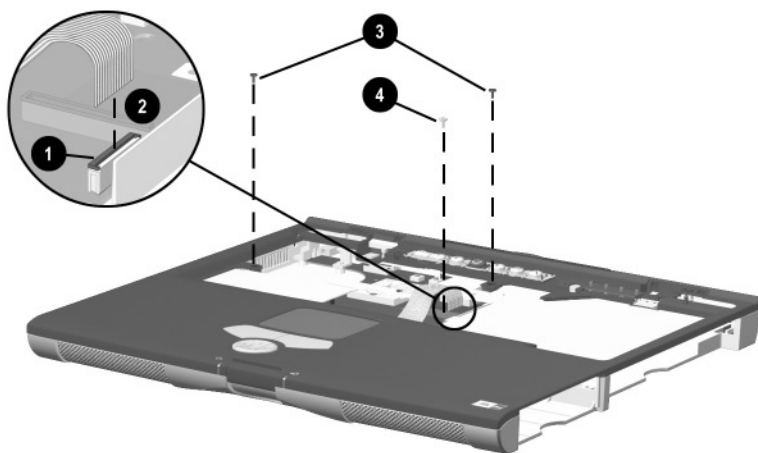

Figure 5-19. Disconnecting the TouchPad Cable and Removing the Top Cover Screws
7. Release the ZIF connector ❶ to which the TouchPad cable is attached and disconnect the TouchPad cable ❷ from the system board (Figure 5-19).
8. Remove the two black M2 × 9 screws ❸ and the silver M2 × 7 screw ❹ that secures the top cover to the base enclosure.